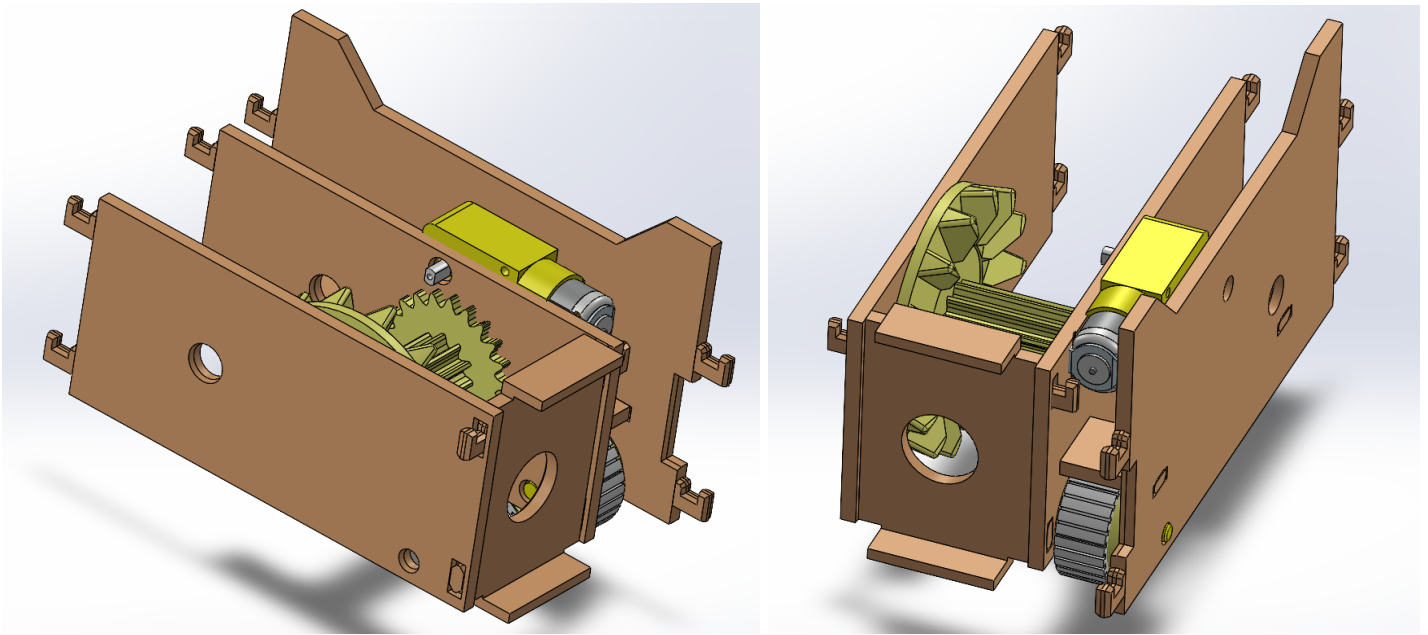

FIGURE 4
STEP 4: In the fourth step we take the result from **STEP 2** and **STEP 3** as well as the part with the number 4 and put all three together as seen in figure 4.